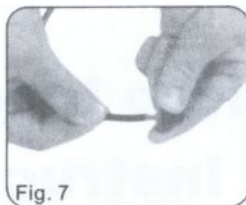

Fig. 7
2. Once the pipe has warmed up simply push the fitting onto the end of the pipe. See Fig. 7